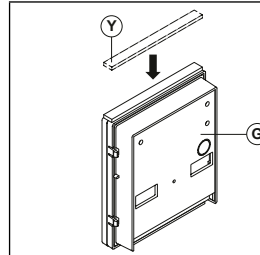

Fig. 2
Apply the (Y) seal as shown in **Fig. 2**.